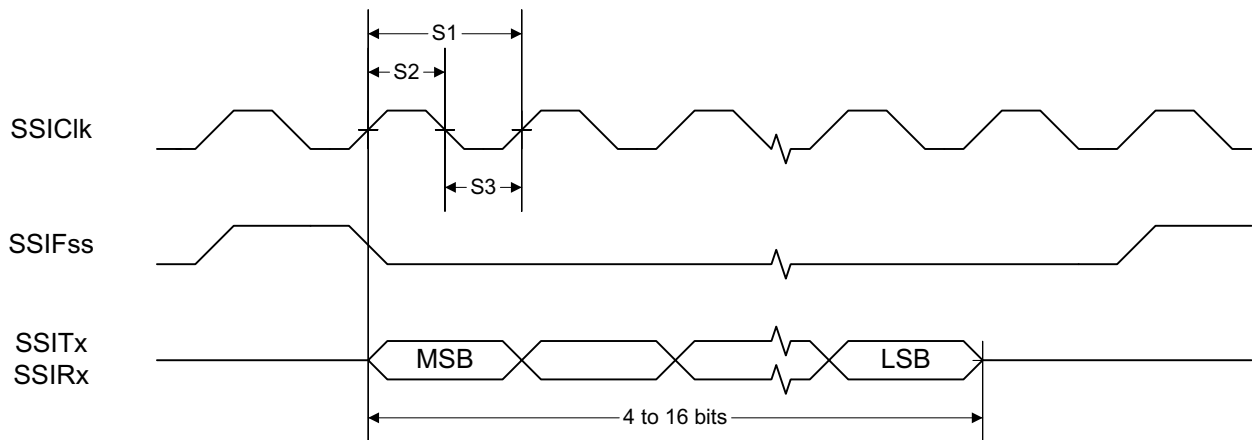
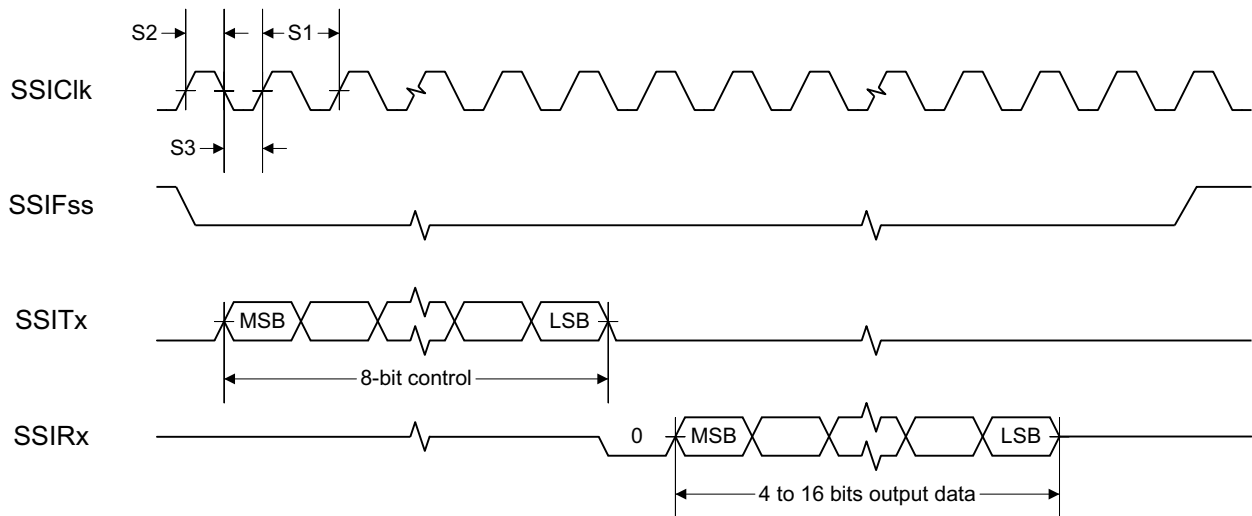
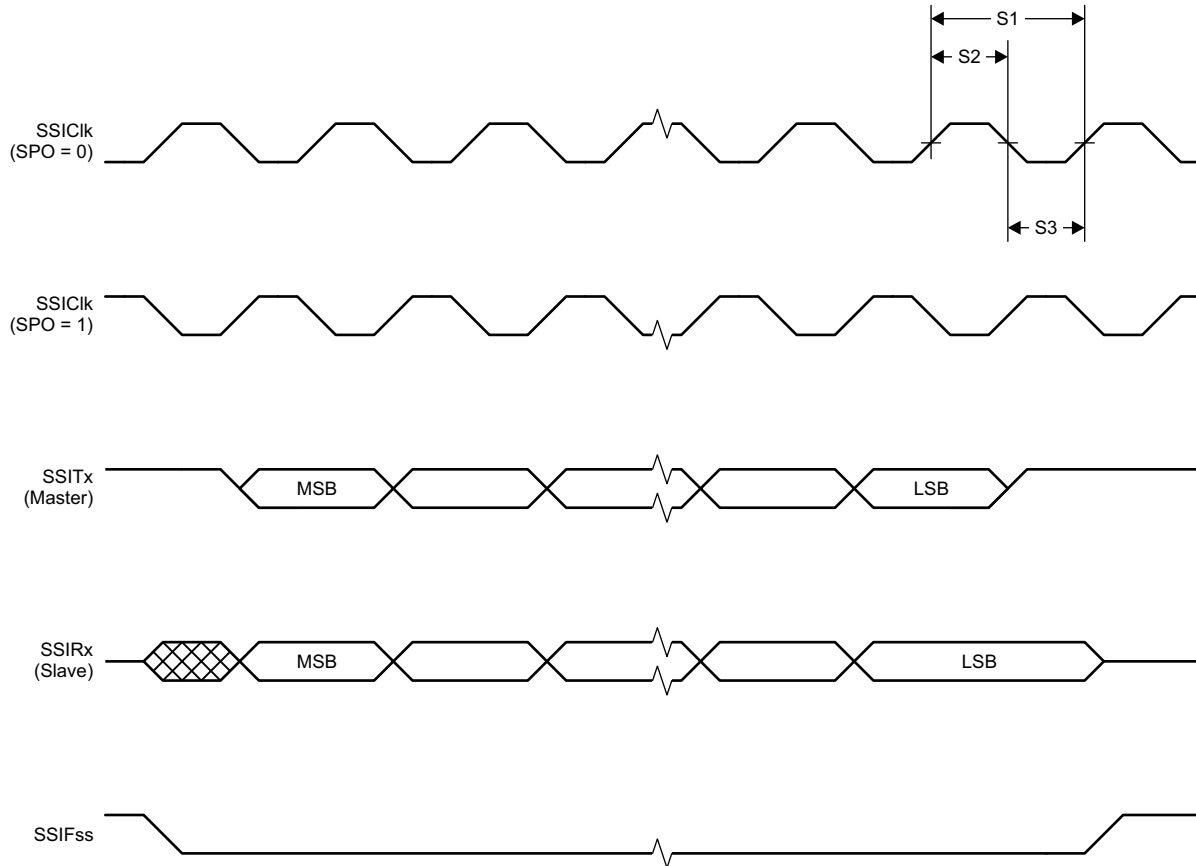

图 8-1. SSI Timing for TI Frame Format (FRF = 01), Single Transfer Timing Measurement
图 8-2. SSI Timing for MICROWIRE Frame Format (FRF = 10), Single Transfer
图 8-3. SSI Timing for SPI Frame Format (FRF = 00), With SPH = 1
(1) Refer to SSI timing diagrams 图 8-1, 图 8-2, and 图 8-3.